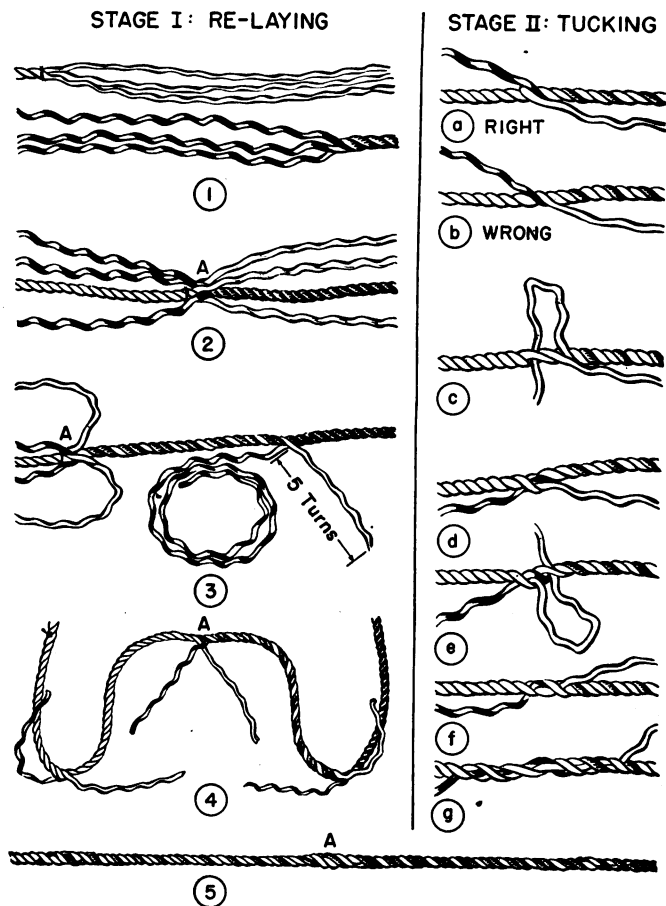

FIGURE 50.—Long splice.
(4) Remove the twine and tuck the free strands of the white rope over and under the strands of the dark rope in the same manner.
(5) Make at least three more tucks with the first rope, repeat for the white rope, and cut off the loose ends. The ends of the splice may be tapered by continuing the tucking process for two or three tucks, cutting out a few fibers from each strand after each tuck. Rolling the splice (under the foot or under a board) will make it compact and smooth.
a. Stage 1: Unlaying.—To make a long splice in a three-strand rope (see fig. 50)—
(1) Unlay 15 turns from the ends and tie string about one of the ropes at these points.
(2) Bring the two parts together in the same manner as for the short splice.
(3) Beginning at the point where the two parts are placed together, unlay one of the strands to the right, and lay carefully in its place all but the last five turns of the corresponding strand from the left. This latter operation should follow closely the unlaying of the strand to the right. There are still two pairs of strands left at point A where the ends were placed together.
(4) Remove the piece of string and run one of these pairs to the left in the same manner as the first pair to the right; cut off the long ends of the strands (including the two remaining at A) about five turns from the main rope.
b. Stage 2: Tucking.—The next part of the splicing consists in tucking the ends of the three pairs of strands. All are tucked in the same manner, as follows: being sure that the ends of the strands pass each other as illustrated in (a) (fig. 50) and not as in (b). As shown in (c), bring the strand from the right up over the nearest strand from the